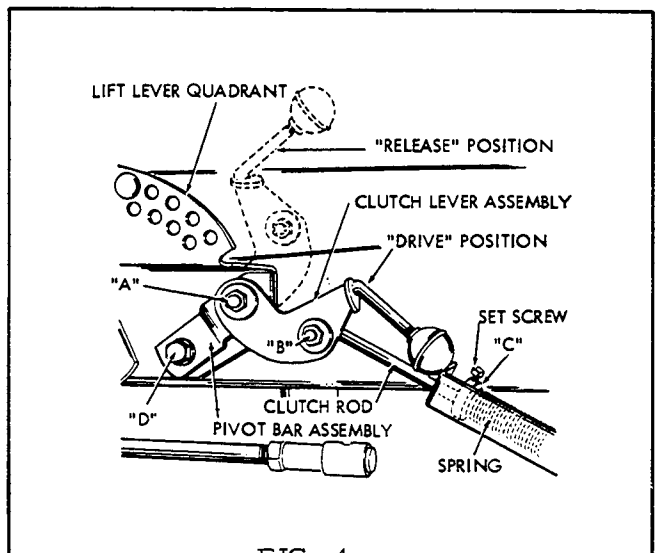

FIG. 4
4. Remove hex capscrew "D" from frame of tractor and mount bracket in place on left lever quadrant (Fig. 4). Position the pivot bar assembly flush against bottom of left quadrant and reinstall the hex capscrew and tighten securely. Check alignment of drive pulley on bevel gear shaft, driven pulley of P.T.O. and idler pulley and adjust driving pulley if necessary.
Operation of the P.T.O. is controlled by movement of the clutch lever assembly. (See Fig. 4). When the clutch lever is in the forward raised position, the clutch rod releases the tension holding the idler pulley against the drive belt and power will not be transmitted to the driven pulley of the P.T.O. assembly. When the clutch lever is in the back, depressed position, the clutch rod applies tension to the idler pulley and as the idler pulley takes-up the slack in the drive belt, power is transmitted from the drive pulley on bevel gear box shaft to the driven pulley of the P.T.O. Fig. 4 shown clutch lever in drive position.
At points "A" and "B" of Fig. 4, check tightness
Place clutch lever in "drive" position and observe clearance between collar "C" (Fig. 4) and end of bracket. When implement is attached to tractor, this clearance should normally be approximately $3/4$ "; at this setting the idler pulley should be snugly against the drive belt. If additional tension is required, release clutch lever and loosen setscrew on collar and slide collar farther back on clutch rod. Retighten setscrew in collar and put clutch lever in drive position. Recheck clearance. The tension of the idler pulley against the drive belt must be sufficient to operate whichever tractor attachment is being used. Any additional tension is unnecessary and will only cause premature failure of belts and idler pulley bearings.